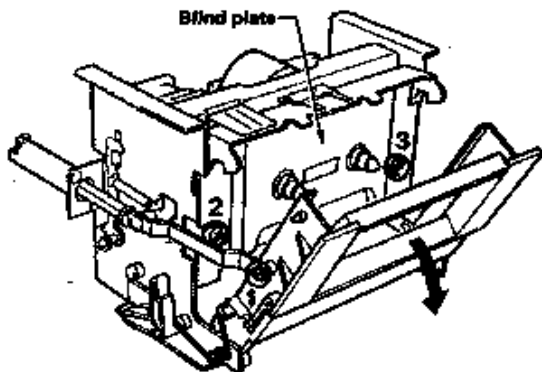

Fig. 5
- Remove screw ① in fig. 5 and open the cassette holder.
- Remove screws ② and ③ in fig. 5 and then remove the blind plate.